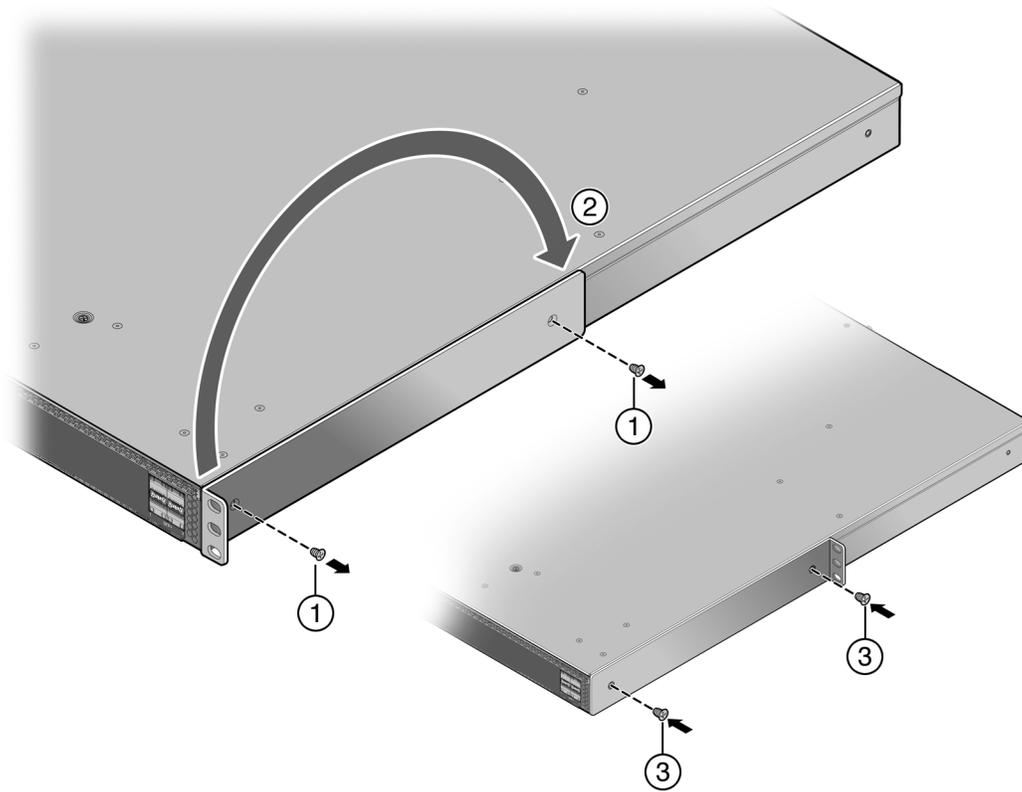

Figure 7: Mid-Mount Power Supply Front Configuration
- 1 Unscrew the two rack mount ear screws as shown by callout 1 in Figure 7: Mid-Mount Power Supply Front Configuration on page 21.